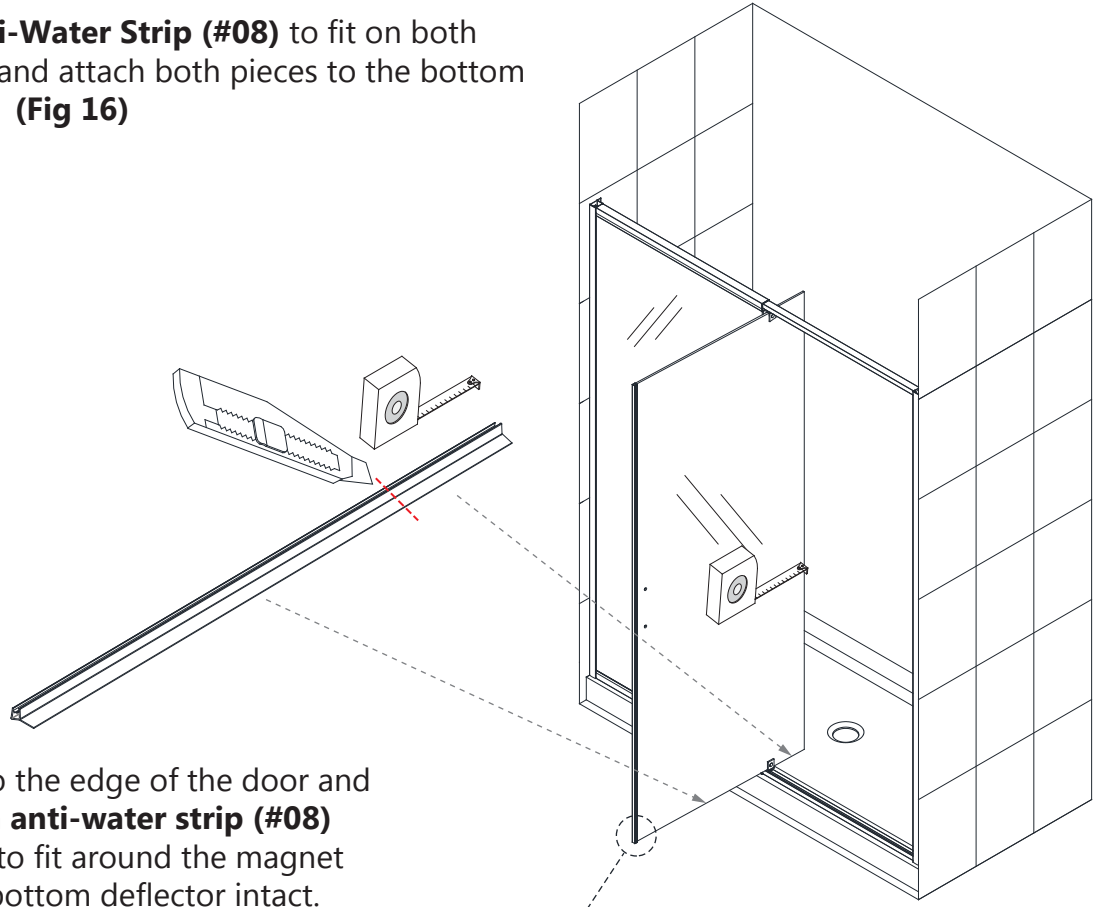

**Fig 15**
**15.** Carefully install the **Door Glass (#17)** onto the **Top & Bottom Pivot Hardware (#16)**. Make certain that all gaskets are in place to protect the glass. Cover the bolt with the decorative cap. **(Fig 15)**